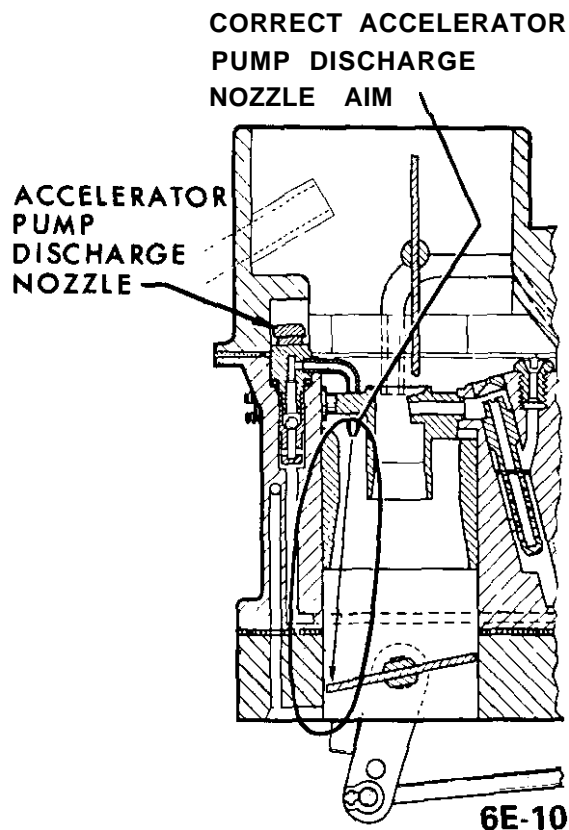

Figure 6E-10 Pump Shot Aim
4. Accelerator pump should discharge fuel between throttle plate and venturi wall with engine off. If aim is not correct, use needlenose pliers to slightly bend nozzle so proper aim is achieved. See Figure 6E- 10.